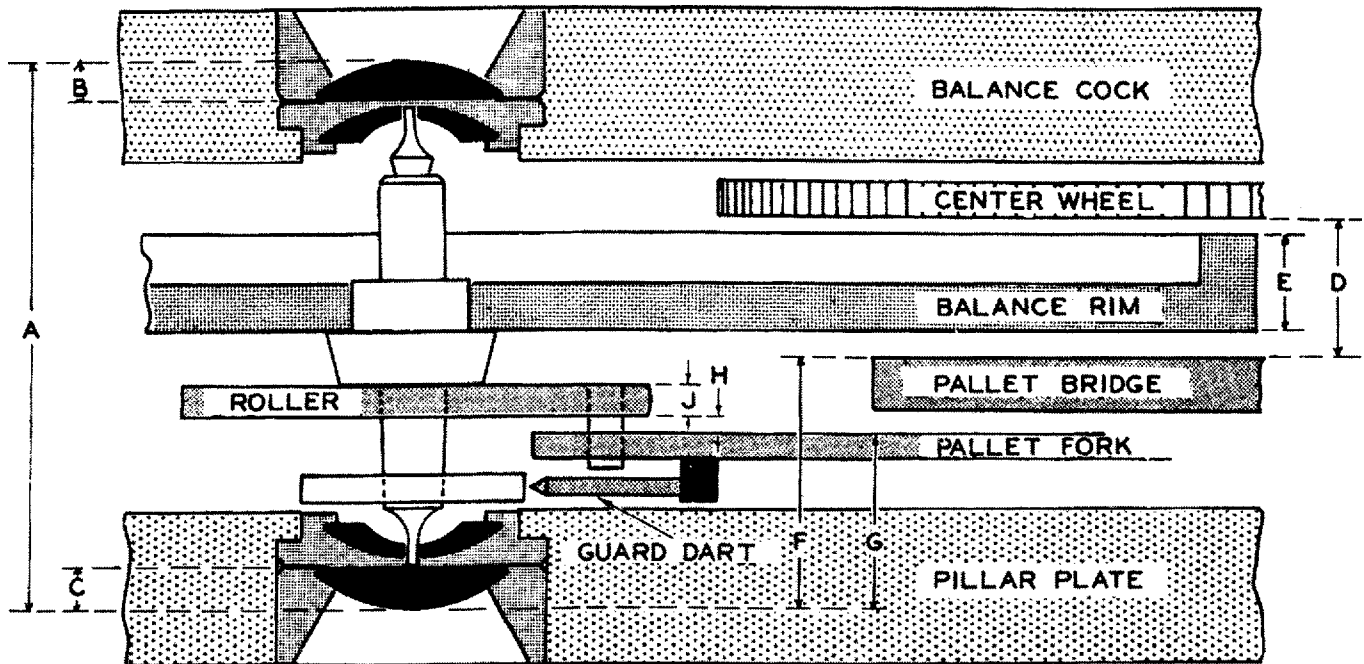

Fig. 31 - 143
2. Measure the distance between the center wheel and the pallet bridge Q figure 31..43 (or the upper plate and balance bridge in case of a full plate